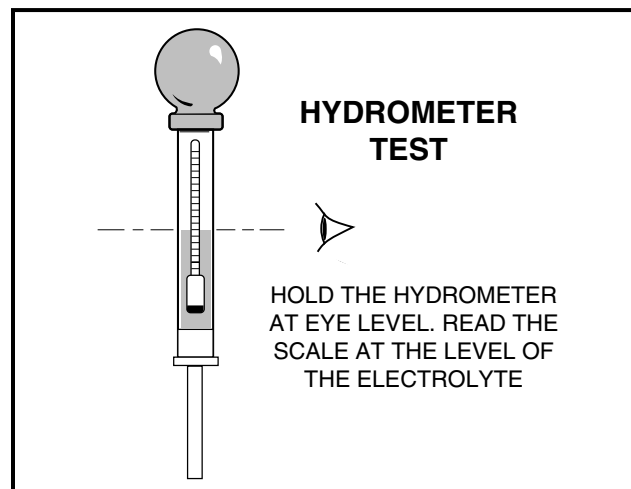

FIGURE 12-56
A hydrometer measures the specific gravity. The higher the specific gravity, the higher the state of charge of the battery. A fully charged battery should read between 1.250 and 1.280 at 80°F. Never add acid to the battery to obtain a higher specific gravity (**Figure 12-56**).
6. Hold the hydrometer vertically, insuring that the float is not contacting the sides of the barrel. Hold the hydrometer at eye level and read the scale at the level of electrolyte (**Figure 12-56**).